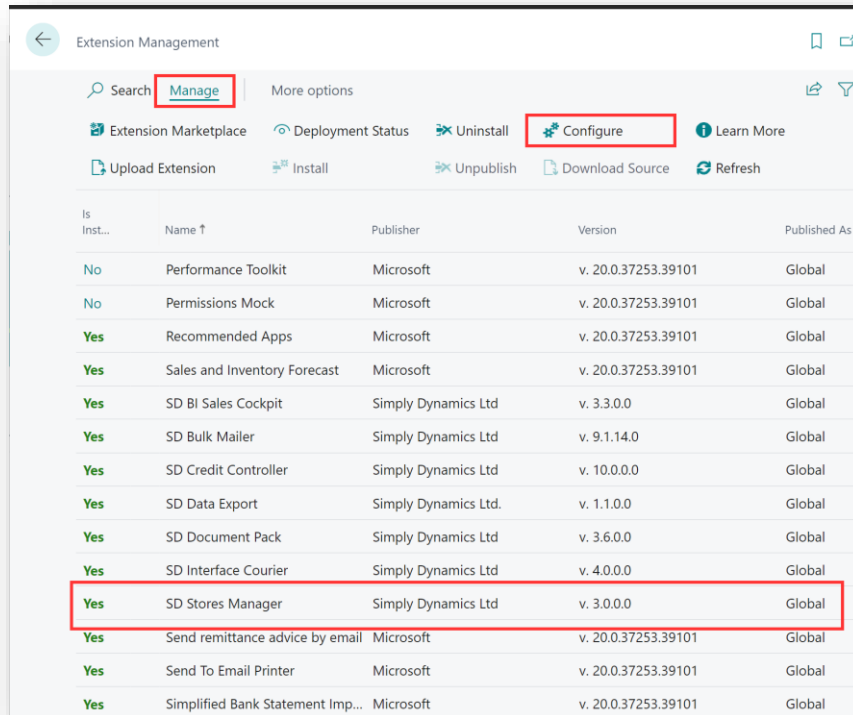

Figure 4-4
3. Select the **SD Stores Manager** record and from the menu, select the **Manage** group, and choose **Configure** (Figure 4-4).